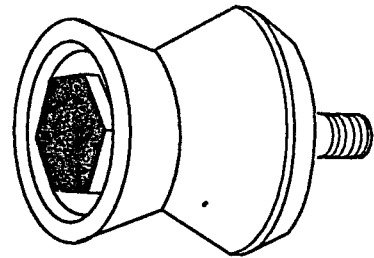

Fig. 5
- Put the shaft through the roller so that the hexagonal head of the screw fits into the provided hole of the roller (Fig. 5).